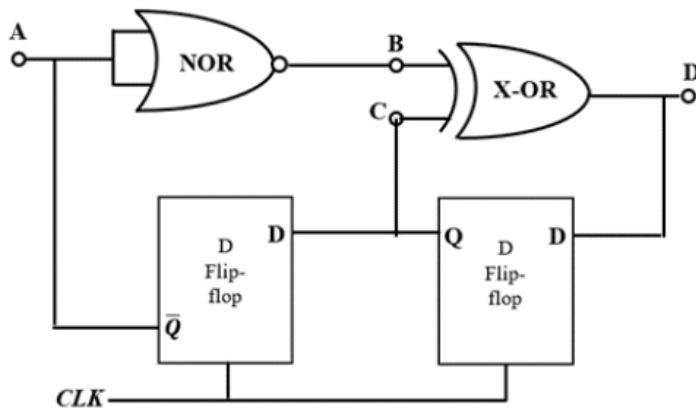

Fig. 5.10
10. Neglecting the delays due to the logic gates in the circuit shown in Fig. 5.10, the decimal equivalent of the binary sequence  $[ABCD]$  of initial logic states, which will